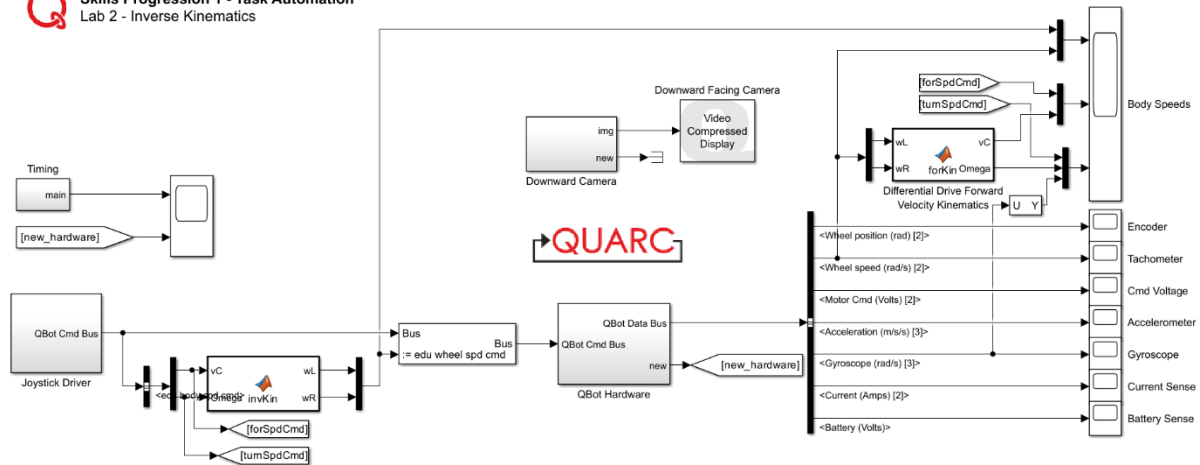

Figure 1. Inverse Kinematics Simulink Model
4. Open the Simulink Model inv\\_kin.slx, as shown in Figure 1. Configure the model so that it can be deployed to the QBot Platform: